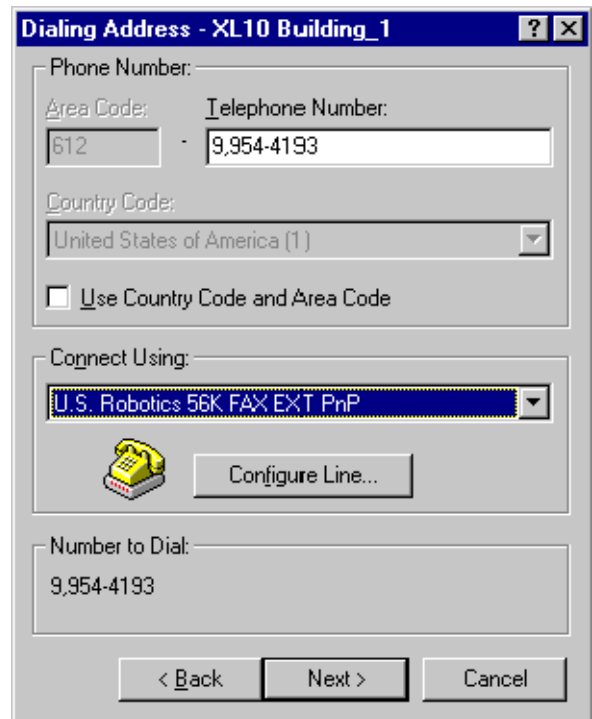

Fig. 6. Dialing Address Screen.
5. Enter phone number of remote site (see Fig. 6).